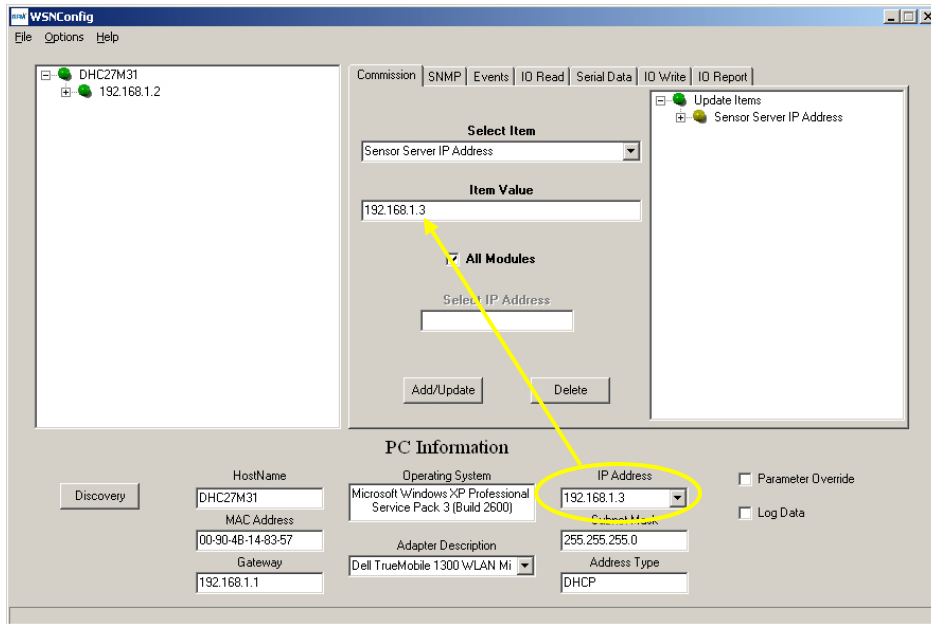
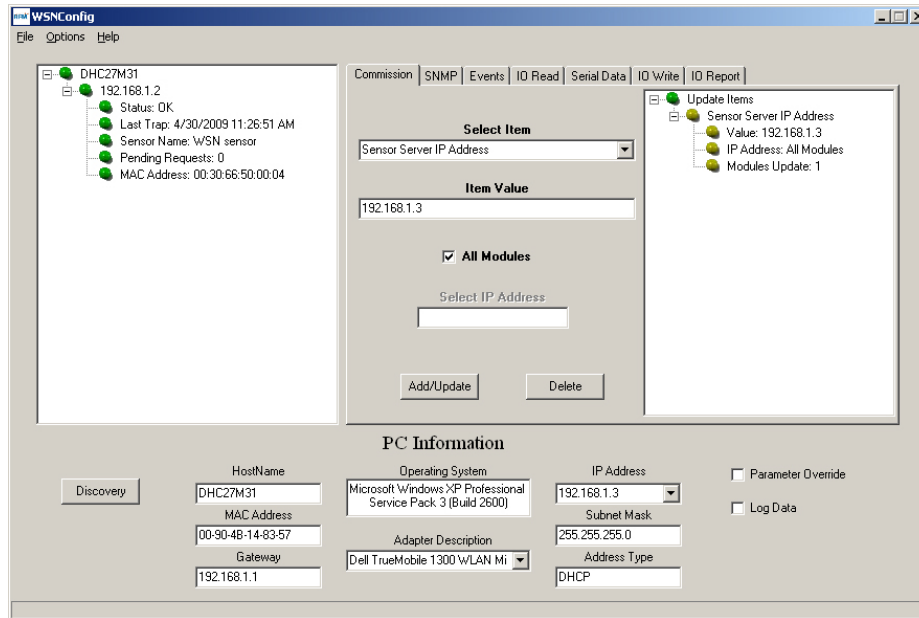

Figure 8.3.4
Figure 8.5.11
7. Select *Sensor Server IP Address* from the *Select Item* drop-down box on the *WSNConfig.exe Commission* tab. Enter the IP Address from the *PC Information* area in the *Item Value* text box. Then click the *Add/Update* button. See Figure 8.3.4. This action configures the WSN802G module to send its periodic I/O report data to the PC running *WSNConfig.exe*.
Figure 8.5.11 shows the same *WSNConfig* main screen as Figure 8.3.4, but with the module IP address tree expanded on the left and the Sensor Sever IP Address tree expanded on the right.